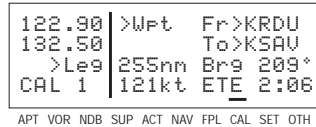
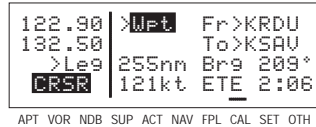

Figure 4-32
Figure 4-33
Now that you've learned how to select the desired page, you're ready to learn the means of entering data. It is necessary to enter data, for example, in order to specify a waypoint of your choice to go Direct To. The general procedure for entering a waypoint identifier is described below and is shown in figures 4-32 through 4-40 for entering a waypoint (in this case, First Flight airport in North Carolina, identifier KFFA) on the Calculator (CAL) 1 page.
1. If the cursor is not on the screen (figure 4-32), press **CRSR** to turn on the cursor function (figure 4-33).